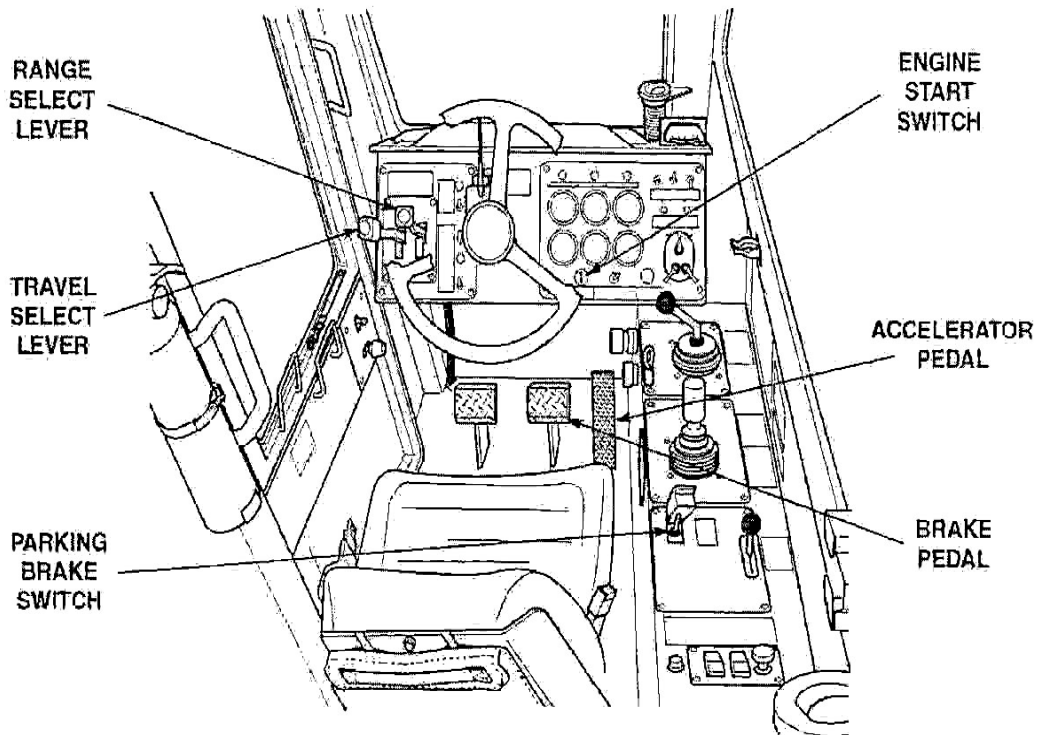

Figure 3-55
1. Start the engine (see Figure 3-55).